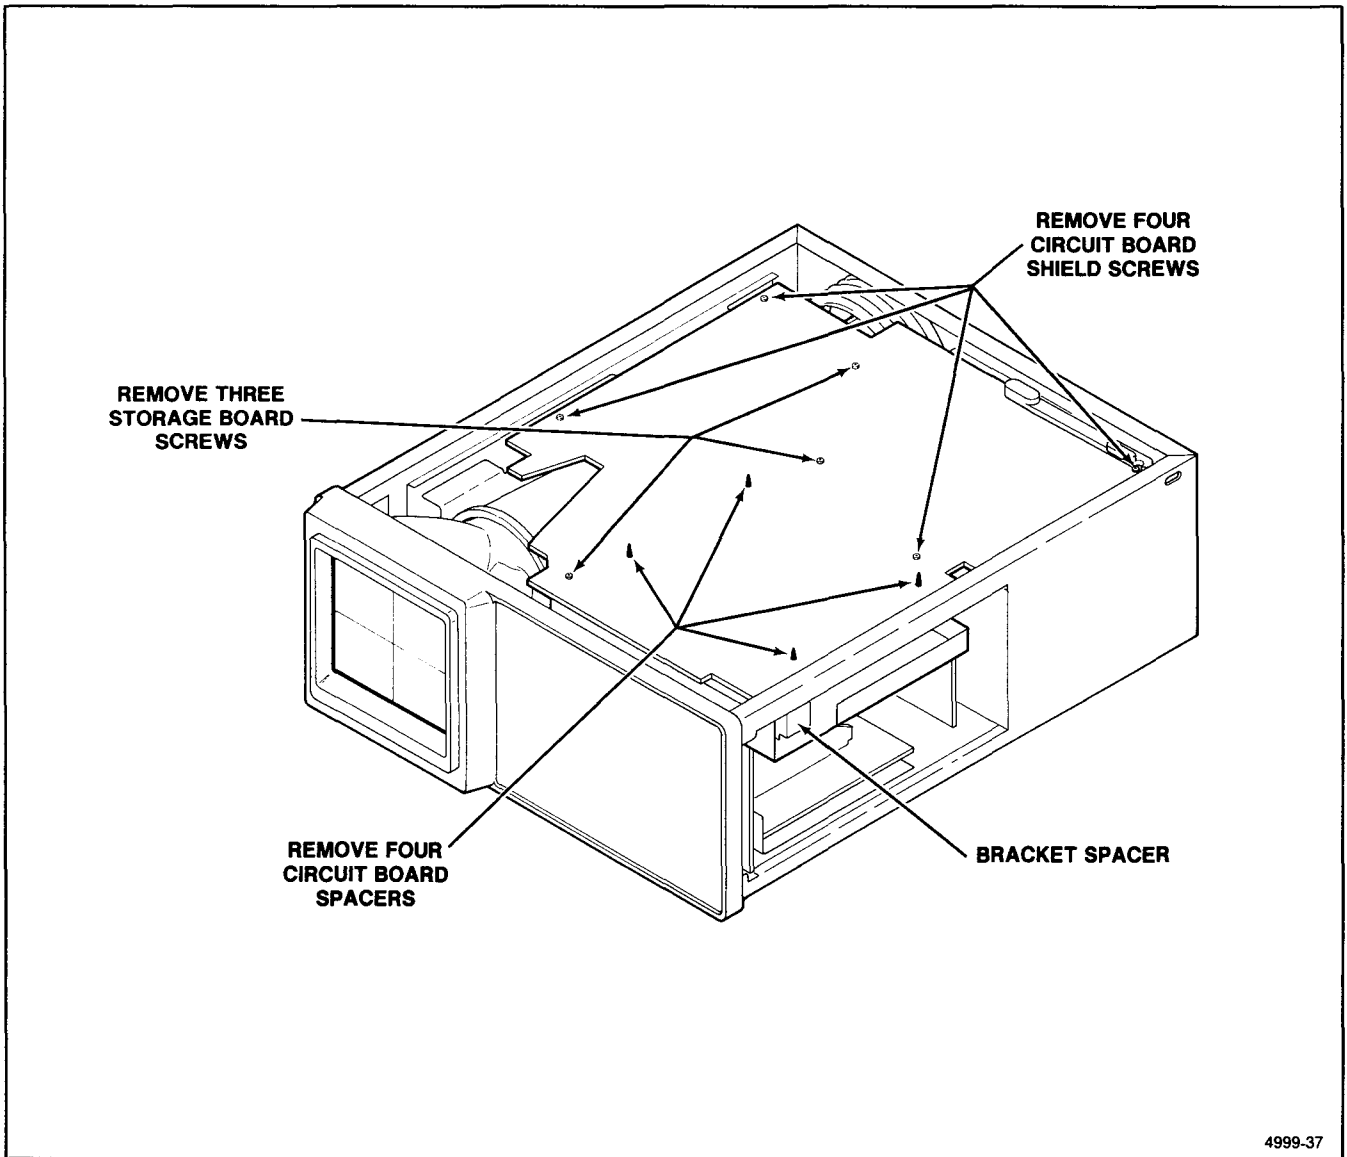

Figure 6-5. Location of screws and spacers on the Storage circuit board.
3. Remove the three screws located near the center front, middle, and rear of the Storage circuit board, identified by the words "Remove Screw to Unhinge" on the circuit board (see Figure 6-5 for the location of the three screws).
6. Remove the four circuit board shield screws from the Storage circuit board (see Figure 6-5 for location of the four screws). Remove the two screws located on top of the Storage circuit board last.
7. Remove the Storage chassis from the instrument by lifting it up out of the bracket spacer tabs. See Figure 6-5 for location of the slot bracket spacer tabs.
9. With one hand firmly holding the Input/Output and Vector Generator circuit board assembly and with the other hand use a long-nose pliers on the top side to squeeze and push the four assembly spacers through the holes in the Storage circuit board (see Figure 6-5 for location of the circuit board spacers). Place the Input/Output and Vector Generator circuit board assembly inside the instrument temporarily to be reinstalled later.